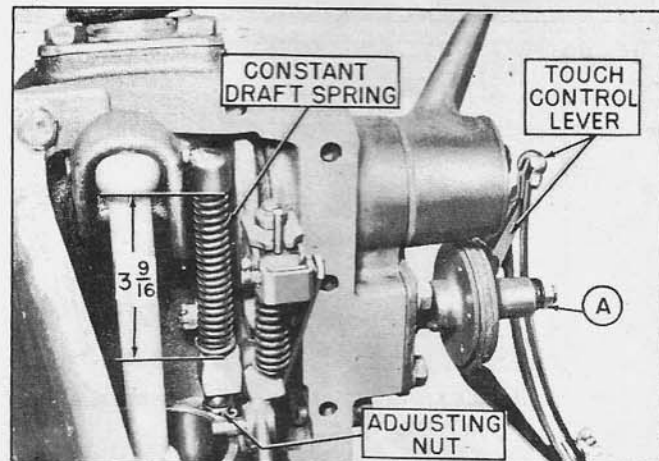

Figure 4
6. Tighten nut (A), Figure 4, sufficiently to require approximately a four to five pound pull to move the touch control lever.
7. Raise the touch control lever to the full-up position as shown in Figure 4.
8. Adjust the constant draft spring, see Figure 4, to its proper length— $3\frac{9}{16}$  inches. If the adjusting nut is a locknut tighten until the